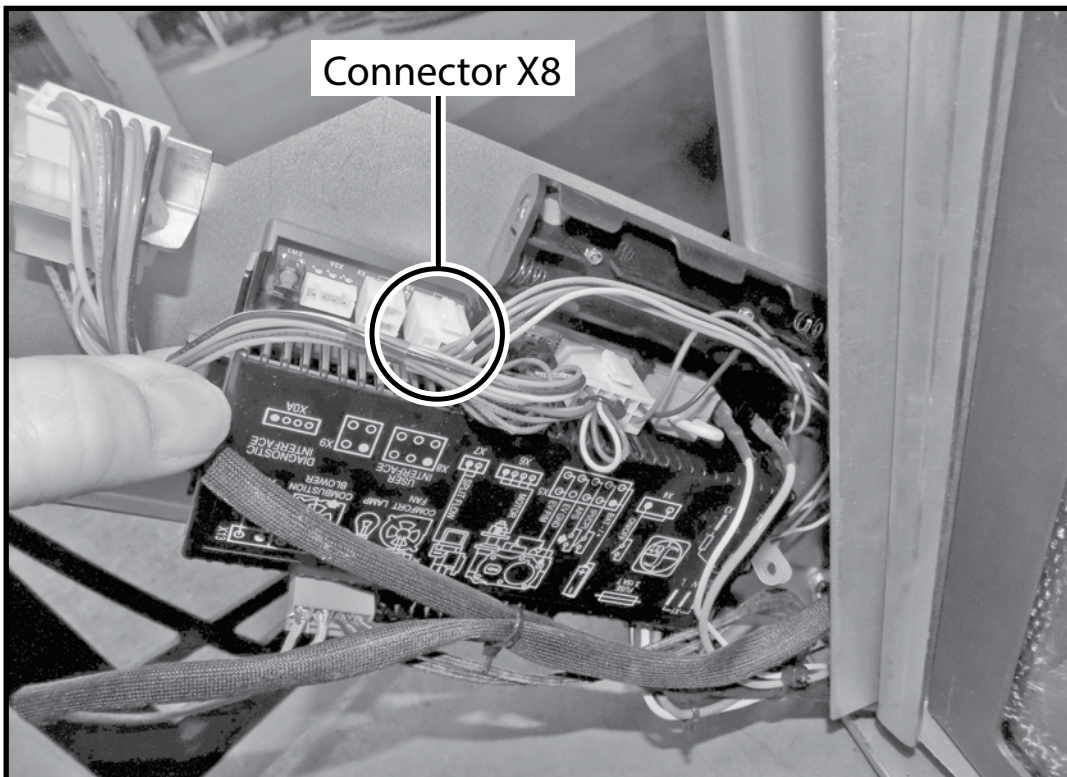

Figure 82: SIT manual switch connection at SIT module.
1. Check that the ON/OFF Switch cable is plugged into the SIT module (jack X8) as shown in Figure 82.
**Note regarding batteries for the SIT module (Figure 82):** Installation of batteries for the SIT module are not necessary if the fireplace is connected to AC power. Batteries are only used if the fireplace is not connected to AC power and as a backup against power failure.